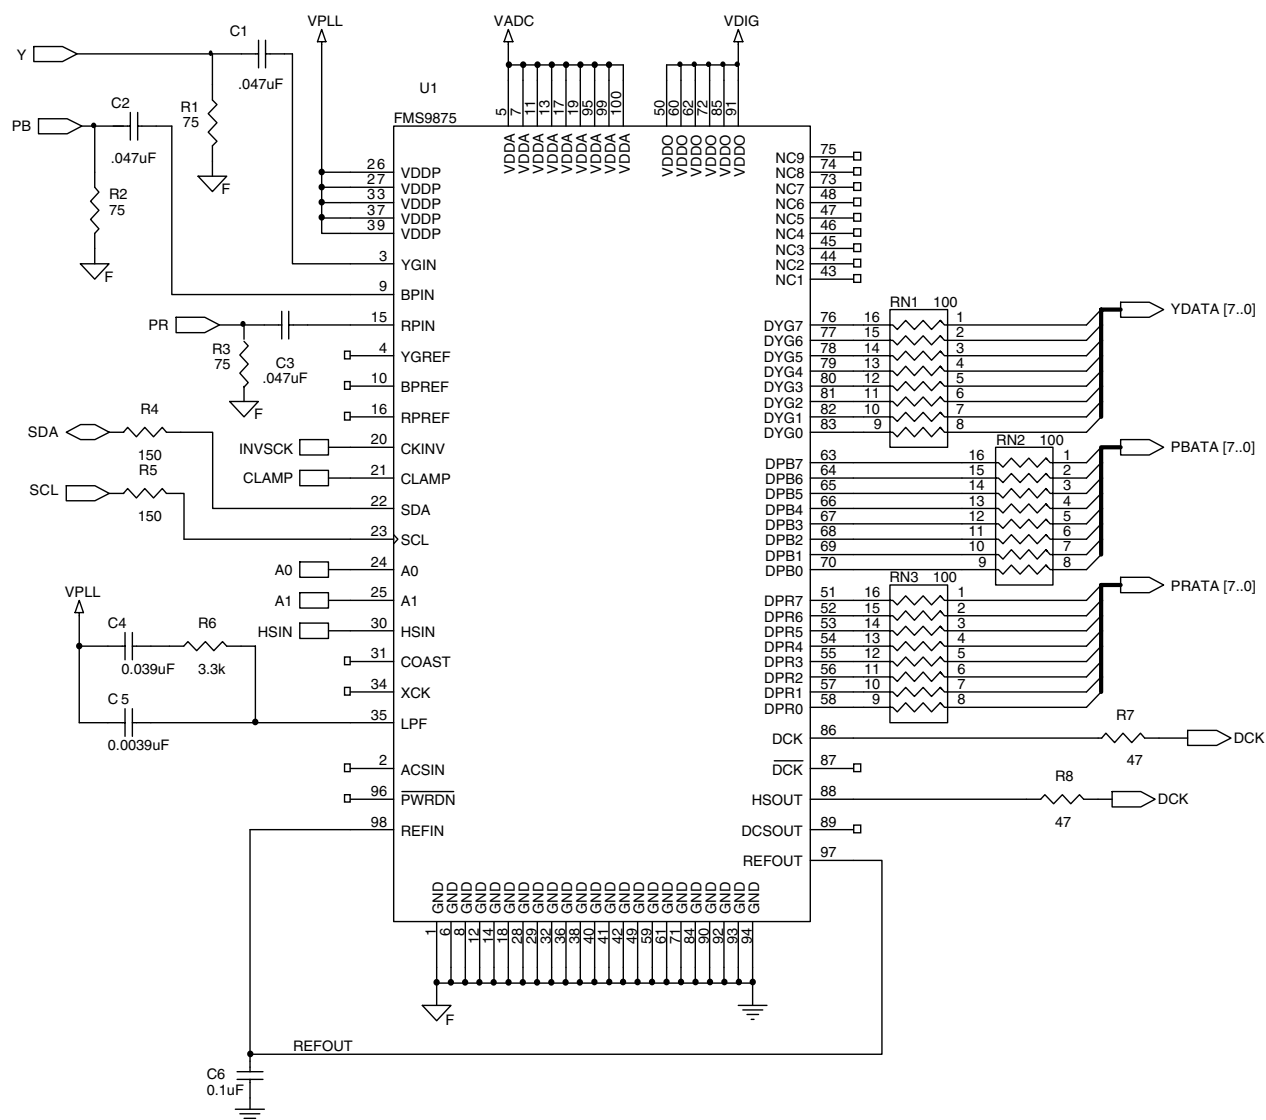

Figure 24. Schematic, VGA Digitizer, AC Coupled RGB
Shown in Figure 24 is an implementation of a video digitizer with AC coupled $Y_P P_R$ inputs. Horizontal sync input.
3. Each V_{DDP}/GND pin pair: 26&27/28, 33/32, 37/38, and 39/40 should be decoupled with either a 0.01 or 0.1 μF capacitor (see Figure 24).